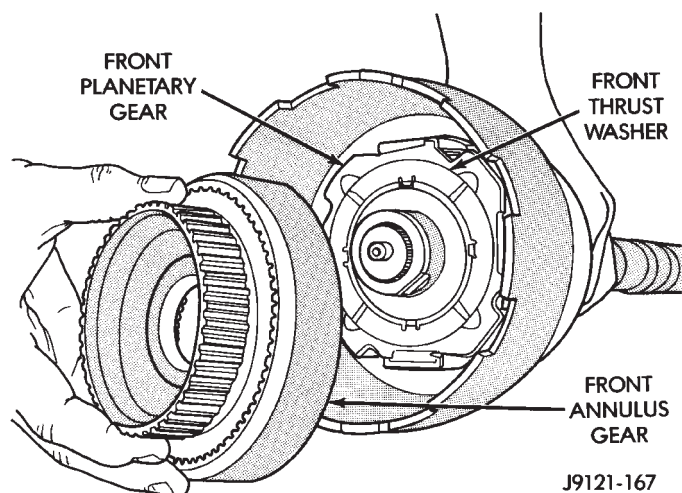

Fig. 238 Installing Front Planetary And Annulus Gears
(14) Install front planetary gear on output shaft and in driving shell (Fig. 238).
(15) Install front thrust washer on front planetary gear. Use enough petroleum jelly to hold washer in place and be sure all four washer tabs are seated.
(16) Assemble front annulus gear and support, if necessary. Be sure support snap ring is seated.
(17) Install front annulus on front planetary (Fig. 238).